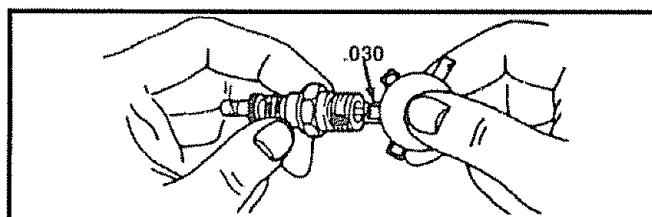

FIG. 15
- Set the gap between the electrodes of the new spark plug at .030 inch. Next, install the spark plug in the cylinder head. Torque plug to 18 to 20 ft. lb. If you do not use a torque wrench, tighten the plug firmly (See Fig. 15).